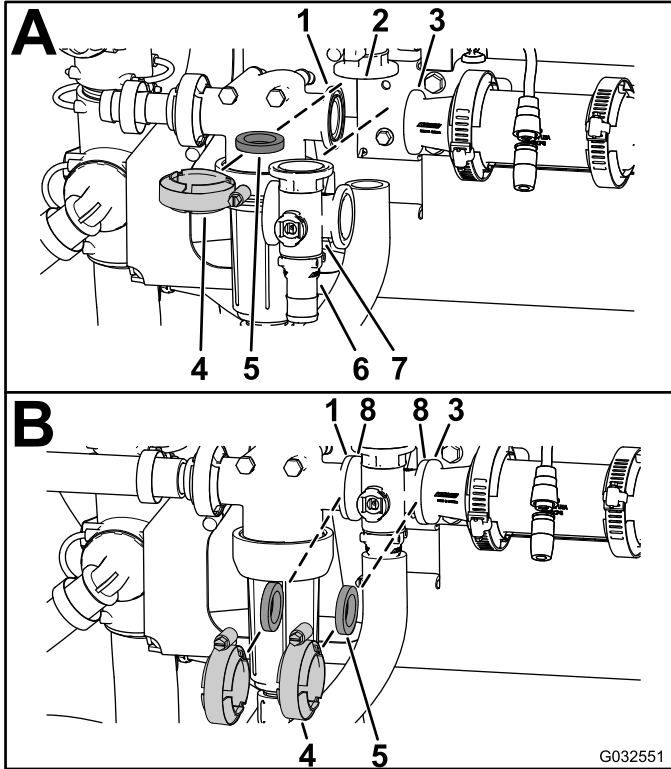

Figure 106
1. Align the flange of the agitation-bypass valve, a gasket, and the end-cap-fitting flange of the agitation-valve manifold (A of Figure 106).
2. Assemble the agitation-bypass valve, gasket, and agitation-valve manifold with a clamp tightened hand tight (A of Figure 106).
3. Secure the quick connect to the bypass fitting by inserting a retainer into the socket of the bypass fitting (A of Figure 106).
4. Align a gasket between the flanges of the pressure-filter head and the agitation-valve manifold (B of Figure 106).
5. Assemble the pressure-filter head, gasket, and agitation-valve manifold with a clamp tightened hand tight (B of Figure 106).
6. Align a gasket between the flanges of the agitation-valve manifold and the reducer coupling (B of Figure 106).
7. Assemble the agitation-valve manifold, gasket, and reducer coupling with a clamp tightened hand tight (B of Figure 106).